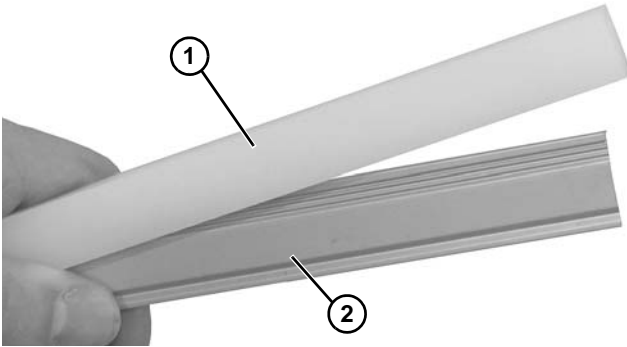

Figure 78
- Attach slide rail (**Figure 78, item 1**) to guiding (**Figure 78, item 2**).